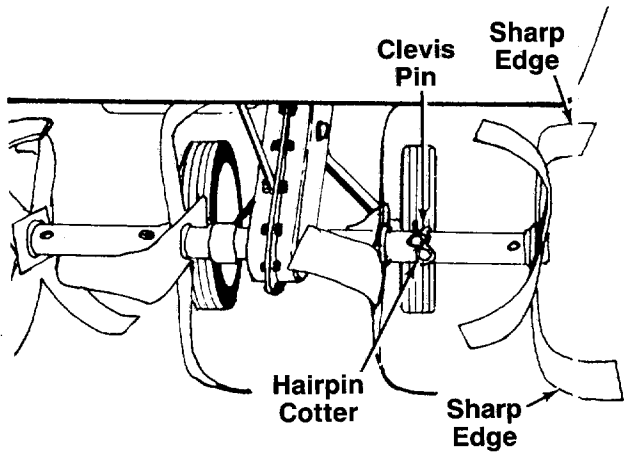

FIGURE 7.
7. Remove the clevis pin and hairpin cotter from the inner tine assemblies as shown in figure 7. Place the right and left hand tine assemblies in position on tine shaft. Secure with clevis pins and hairpin cotters.
Be certain the tine assemblies are assembled on the tine shaft so that the sharp edge of the tines enter the soil first. See figure 7.